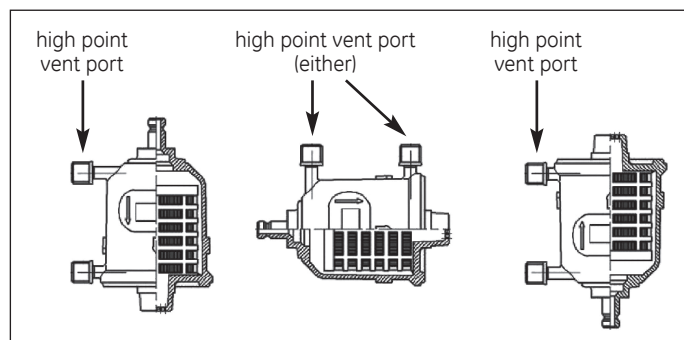

Fig 2. Capsule orientation.
- Open the vent port on both capsules. (It is only necessary to open one vent port on each capsule. The appropriate vent port is the one which is physically higher, depending on the capsule orientation. See Fig. 2, on page 2)